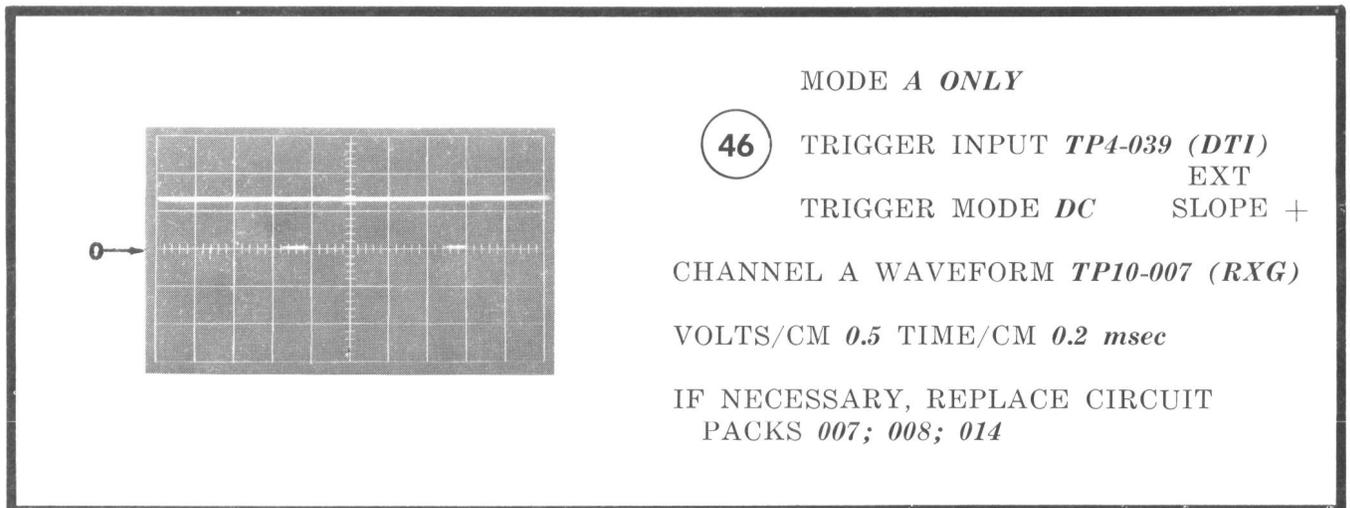

Fig. 37 — Digital Data Receiver Test
9.30 The digital data receiver converts the demodulated data waveforms into standard logic signals. These signals are generated as a serial binary data waveform acceptable to customer equipment. The digital data receiver also generates axis-crossing pulses for timing the recovery circuit operation. Waveforms shown in Fig. 37 through Fig. 39 are keyed to the functional schematic shown in Fig. 40.